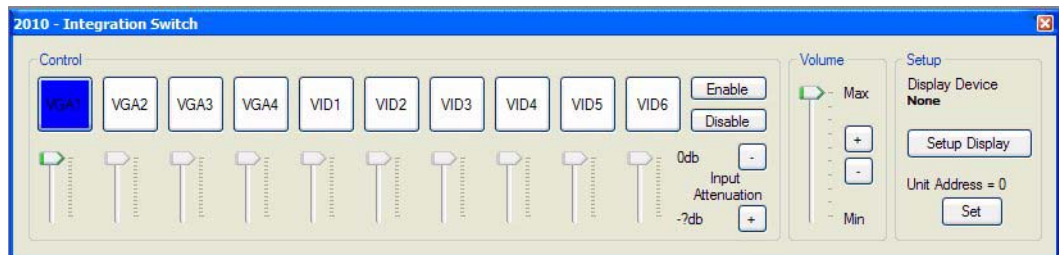

FIG. 2 Device Manager - Virtual Panel
3. Click on the AVS-SL-PR-0401-0601 to access the virtual panel (FIG. 2):